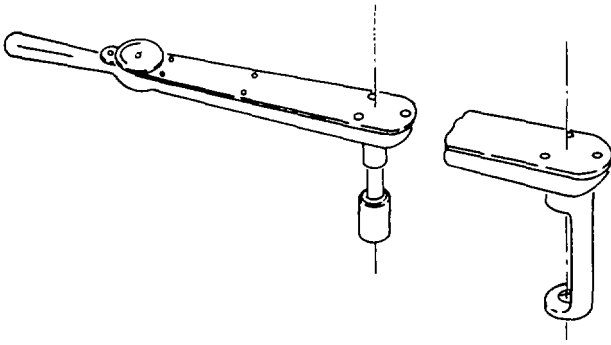

Figure 8-15. Concentric Torque Wrench Attachments
(1) Concentric attachments. The use of an attachment which operates in line with the drive square of the wrench presents no particular problem, since the effective length of the wrench is not lengthened or shortened. The torque applied to the fastener will therefore be the torque value indicated on the dial. Figure 8-15 illustrates typical attachments of this type. These attachments may also be used on the audible indicating torque wrenches without affecting the torque setting.
(2) Nonconcentric attachments. For some tightening applications, an attachment can be used on the torque wrench that does not operate concentrically with the drive square. An attachment of this type has the effect of lengthening or shortening the lever length, and the torque value shown on the dial is not the torque that is applied to the fastener. When using these attachments, it is necessary to calculate the effect of the lever length to determine the correct torque reading.